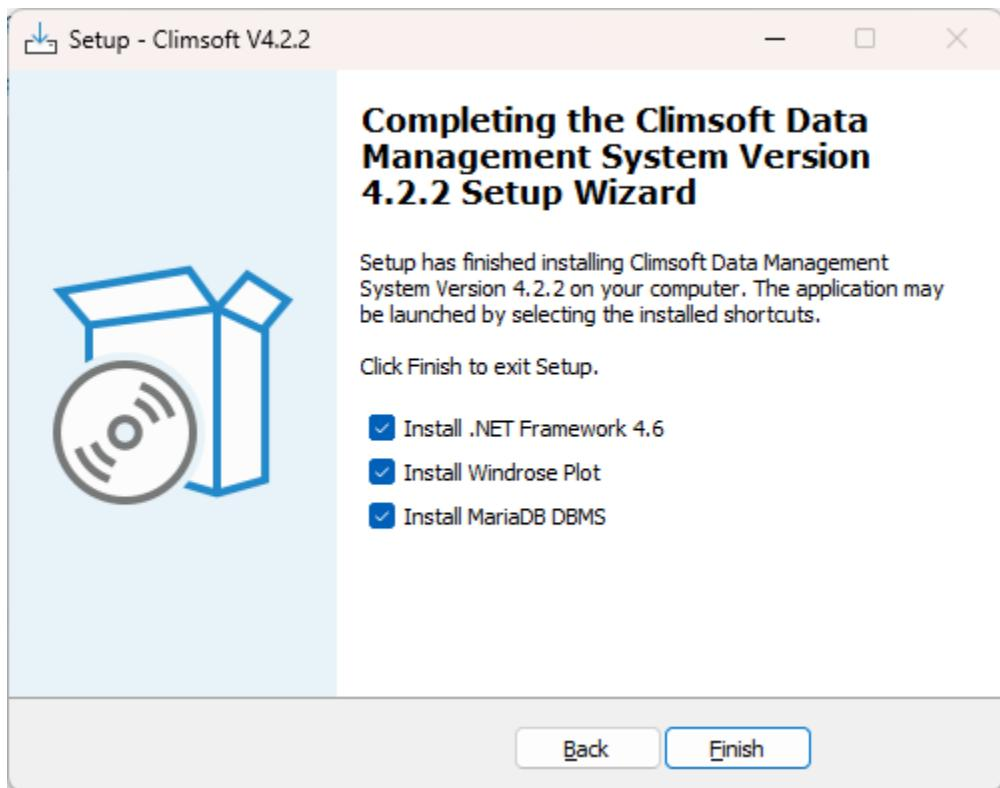

Figure 1(a): Installation of additional applications
3. When the core Climsoft setup has been completed, a dialog with options for installing additional applications required by Climsoft will appear as shown in Figure 1 below.